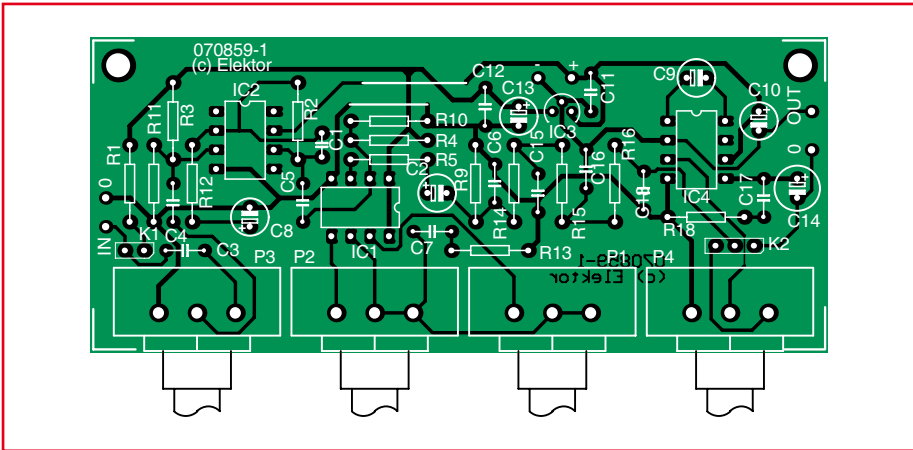

Figure 4. A small PCB has been designed for the voice changer, which makes the construction very easy.
**Figure 4** shows the board layout for the voice changer. Populating the board should be simplicity itself, with all components clearly laid out. The controller can be obtained ready-programmed from Elektor Shop as item **070859-41**. If you prefer, you could program it yourself (software 070859-11, but make sure you use the correct settings for programming the chip, as shown in the inset). If you use an electret microphone you'll need to place a jumper across K1. The jumper on K2 selects the type of output signal (pins 2-3 uses the output amplifier, pins 1-2 for a line output signal).